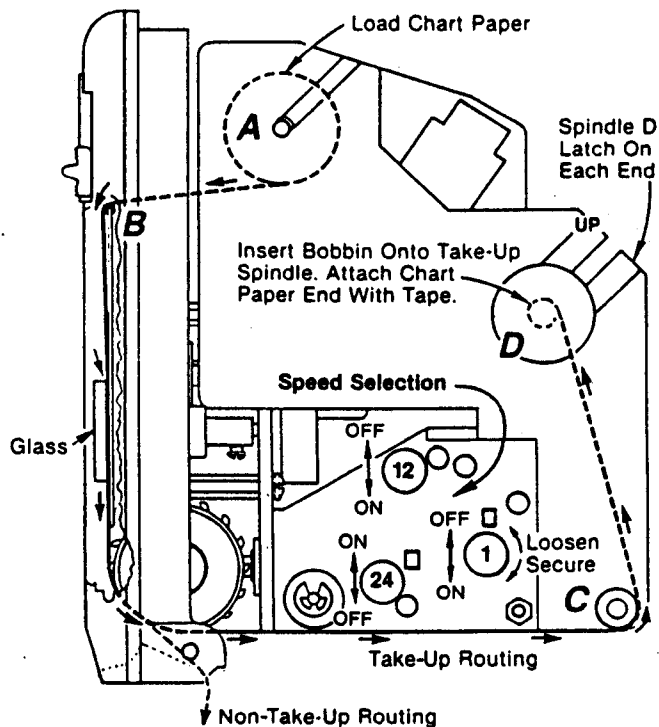
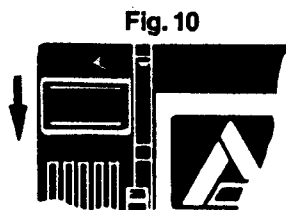

Fig. 9
Fig. 10
3. To insert or remove chart paper, place recorder in horizontal position and press the release button in the direction shown in fig. 10. Raise recorder mechanism to a vertical position until it locks. Remove feed shaft **A** (see fig. 9) and place chart roll on spindle. Remove tape on roll and retain tape for securing chart on take-up spindle **D**. Unroll about 12" to 15" and route paper over top edge of scale plate **B** underneath glass, over the sprocket wheels, to the rear and over the idle roller **C** up to the cardboard bobbin mounted on take-up spindle **D**. Secure edge of chart to bobbin with tape. Make sure the sprocket holes in the paper engage the sprocket wheels. Be
sure that feed control is tight and in the right position. The word "ON" must be visible. Press in the idle roller extension **C** to allow the recording mechanism to move back down into case and lock into position. Replace cover by positioning the "U" bend onto the plastic projections and snap front down. Make sure chart paper is not binding with the cover in place. For "non-take-up" recording, route chart through bottom slot as shown in fig. 9.
1. To select chart speed, energize recorder with proper line voltage and frequency. Raise recorder to vertical position (see loading and unloading chart paper on take-up models). Move chart drive switch to "ON" position exposing the word "ON". Make sure switch clicks into detent (see fig. 11). Set all three speeds to "OFF" position and tighten (see fig. 9). Move desired speed knob (1, 12 or 24) to "ON" position. Tighten while keeping pressure on gear mechanism.
2. Press in the idle roller extension **C** to allow the recording mechanism to move back down into the case and lock into position. Replace cover by positioning the "U" bend onto the projections above the chart well opening. Make sure chart paper is not binding with the cover in place. For "non-take-up" recording route chart through bottom slot as shown in figure 9.